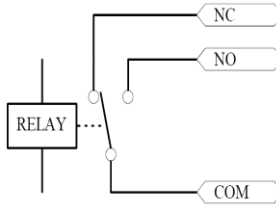

Figure 2
2. Electric lock interface (See Figure 2)
Reset Non Volatile Memory by switching of the power and placing the jumper connector onto the pins 1 & 2 as per figure 2. After switching power on remove jumper, the K2 will give a beep and is now reset to factory default values.